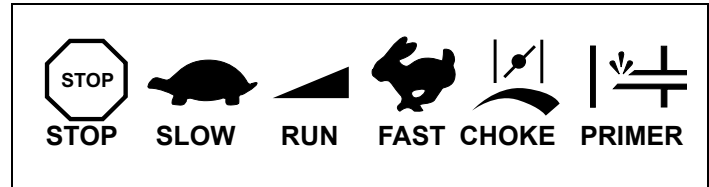

Figure 14. Typical Engine Symbols
3. Move Equipment Control (see equipment manufacturer's instructions) or Engine Throttle Control to "FAST" position or "HIGH" position. See Figures 14 and 15.